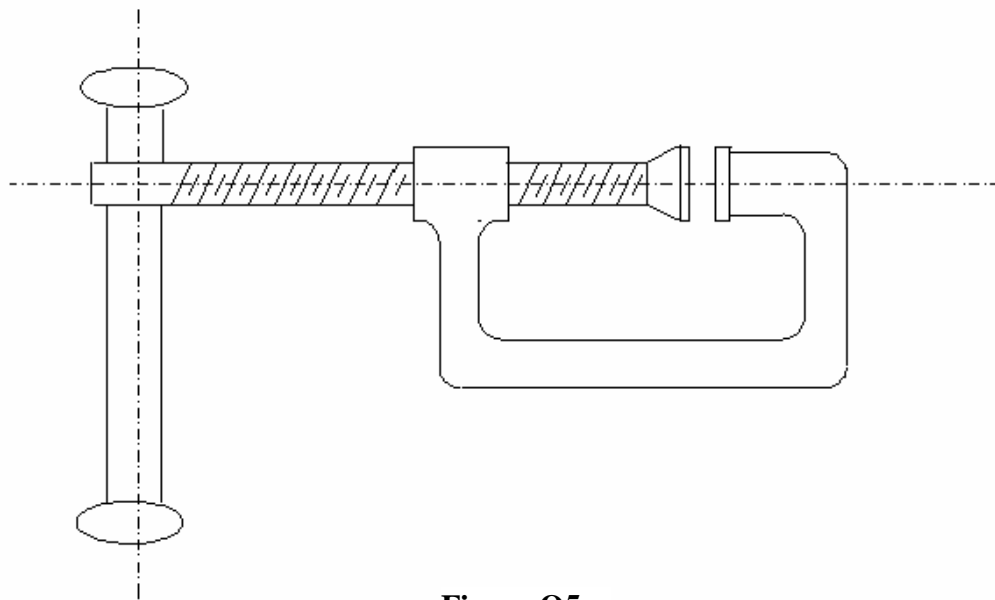

Figure Q5
- (b) The C-clamp shown in Figure Q5 uses a 10mm screw with a pitch of 2mm. the coefficient of friction is 0.15 for both the threads and the collar. The collar has a frictional diameter of 16mm. The capacity of the clamp is 700N. Determine: